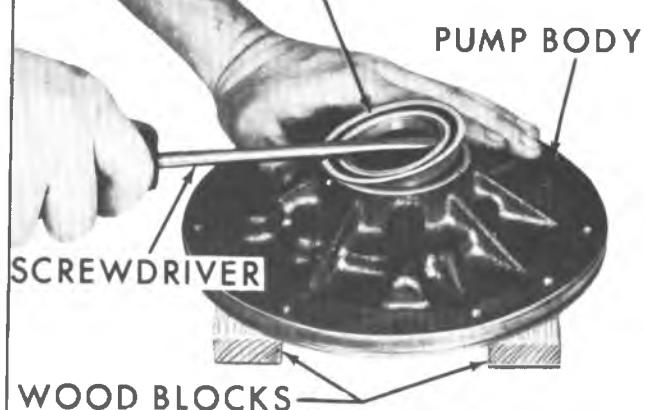

Fig. 61M-Removing Pump to Converter Hub Lip Seal
1. Replace hub lip seal if defective (figs. 61M and 62M).